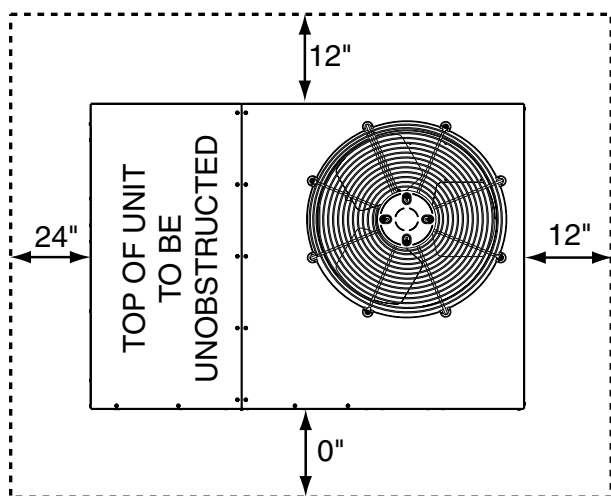

Figure 1. Minimum Unit Clearances
- Sufficient clearance for unobstructed airflow through the outdoor coil must be maintained in order to achieve rated performance. For minimum clearances to obstructions, see Figure 1.
Minimum clearances **MUST** be maintained from adjacent structures to provide room for proper servicing and air circulation. **DO NOT** install unit in a confined or recessed area that will allow discharge air from the unit to re-circulate into the condenser air inlet, through the coil. See Figure 1.